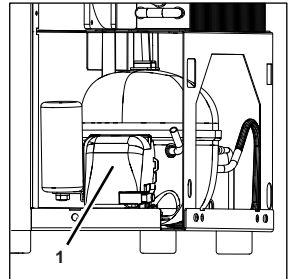

Figure 127
1. Remove the cover (Figure 127/1) from the electrical assembly.
8. Attach the cover (Figure 127/1) of the electrical assembly.